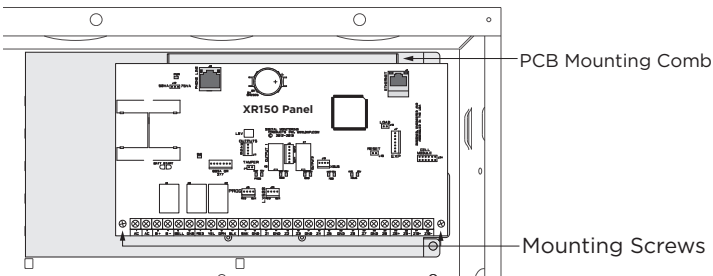

Figure 4: Install the PCB
2. Secure the PCB with screws. See Figure 4.